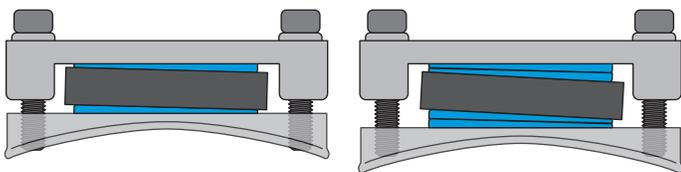

Figure 2
- When adding wedges, two wedges must be used at any time in the manner shown in Figure 2 where each wedge faces in the opposite direction to keep the bracket square. A maximum of four wedges (2 on each side) may be used at any time.
1. When transferring to a two-hole bracket, use the pilot holes 7 & 8 (Figure 2) in the Adjustable Alignment Bracket to mark the foot for the ½ in. holes.